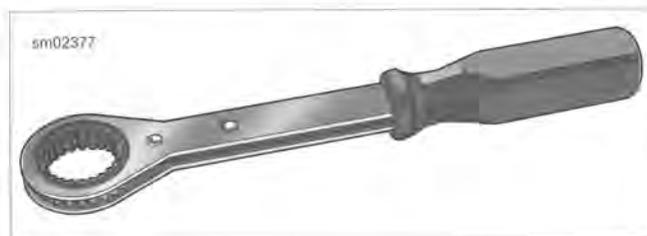

Figure 3-16. Crankshaft Rotating Wrench
- c. See Figure 3-16. **With engine mounted in engine stand;** Install CRANKSHAFT ROTATING WRENCH (Part No. HD-48283) on sprocket shaft and rotate counterclockwise until the base circle is found.